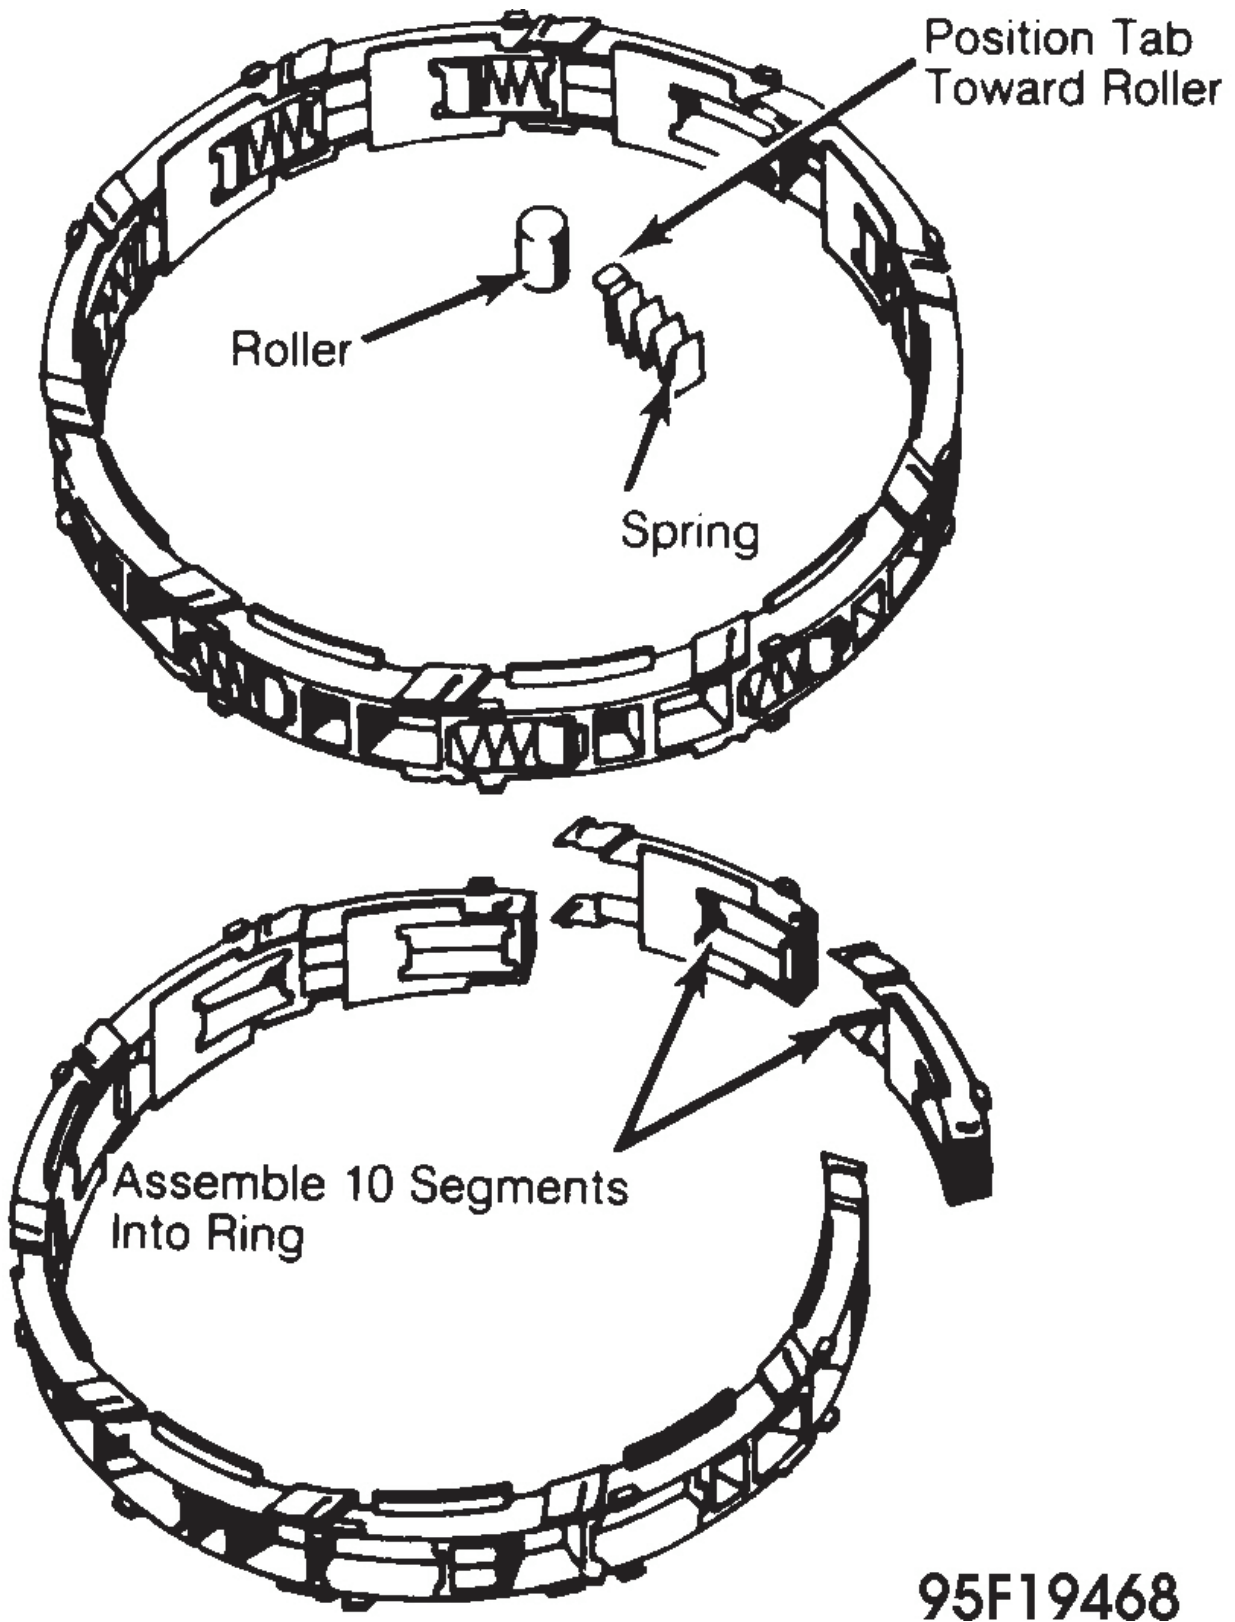

Fig. 23: Installing Roller & Spring In One-Way Clutch
3. Install upper circlip. Install rollers and springs into cage. Ensure that guide lug on springs (if equipped) is pointed toward roller. See **Fig. 23**.